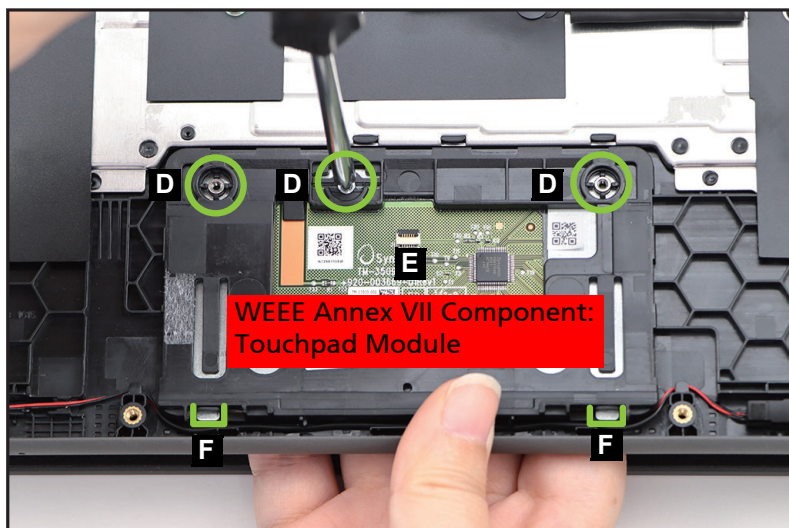

Figure 3-17. Touchpad Module Removal
6. Using the screwdriver, push the guide pins (D) firmly to release them from the top assembly (Figure 3-17).
7. Slide the touchpad module (E) slightly to disengage it from the bottom latches (F), and then remove the touchpad module from the top assembly (Figure 3-17).